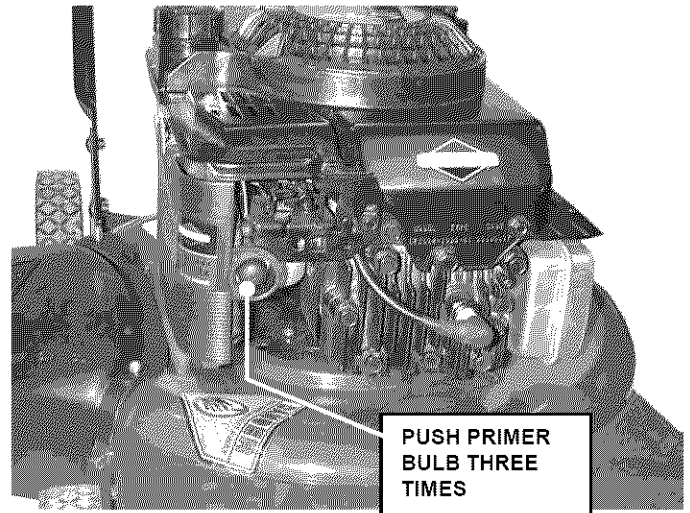

FIGURE 2.3
1. Push primer bulb three times to start a cold engine. **NOTE:** Primer should not be required when restarting a hot engine. See Figure 2.3.